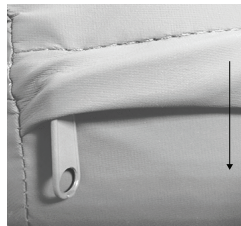

Figure 1 – Watershed cover barrier
2. Make sure that you align the mattress with the watershed cover barrier pointing down (see Figure 1).